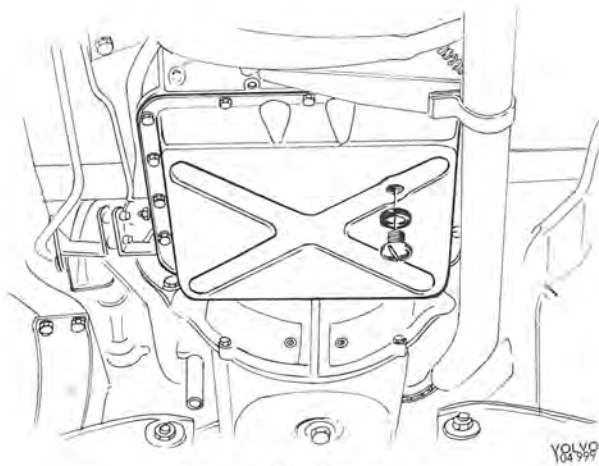

Fig. 4-77. Oil drain plug
1. Jack up and place props under the vehicle. Drain off the oil into a vessel which is absolutely clean. See Fig. 4-77.
2. Drain the oil into a clean container, see Fig. 4-77.